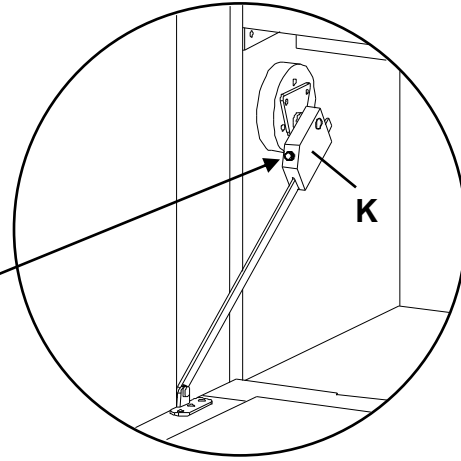

Fig. 6
6. To adjust the brake tension on the Door Stay (K) turn the screw on the Door Stay clockwise to loosen or counterclockwise to tighten. See Figures 6 and 6a.